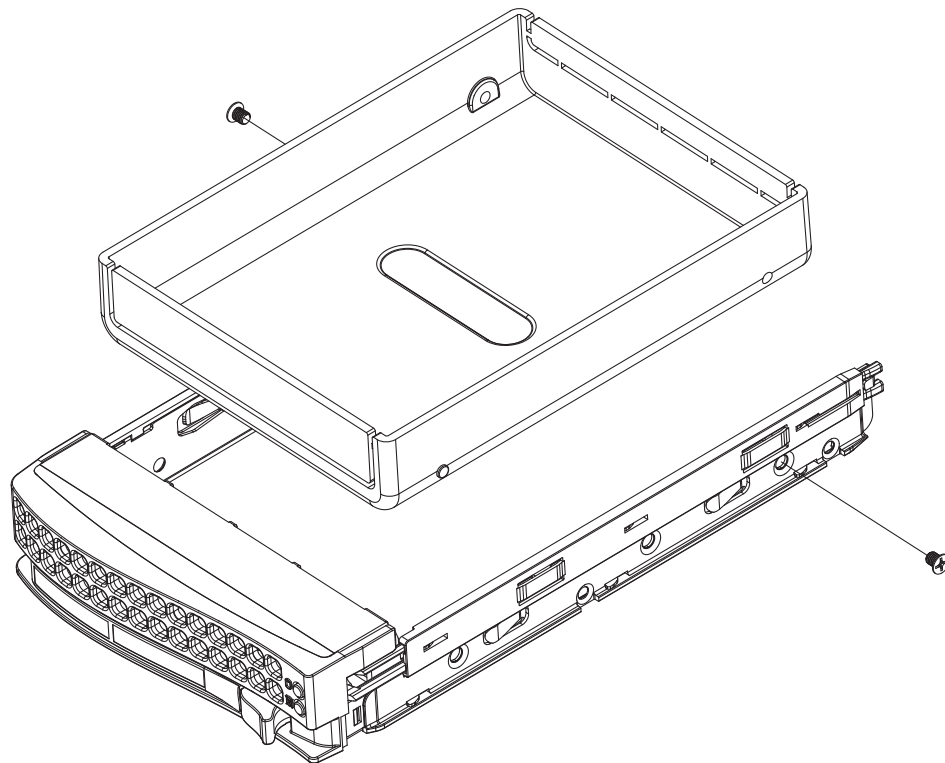

Figure 3-7. Removing a Dummy Drive from a Tray
1. Remove the dummy drive as shown in Figure 3-7 below.